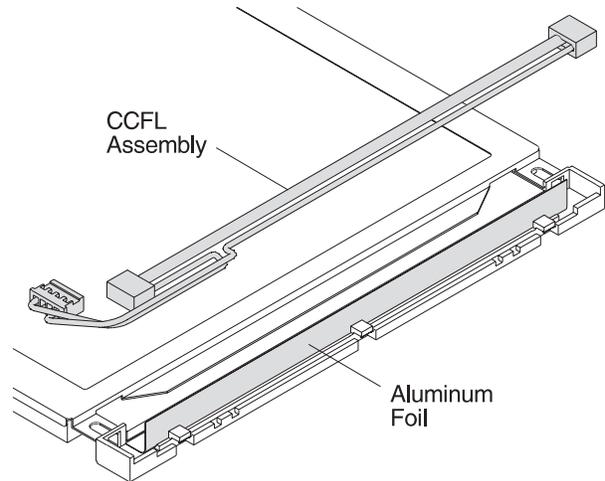

Figure 3-13. Removing the CCFL Assembly
- 5 Carefully lift the CCFL assembly out. See Figure 3-13.